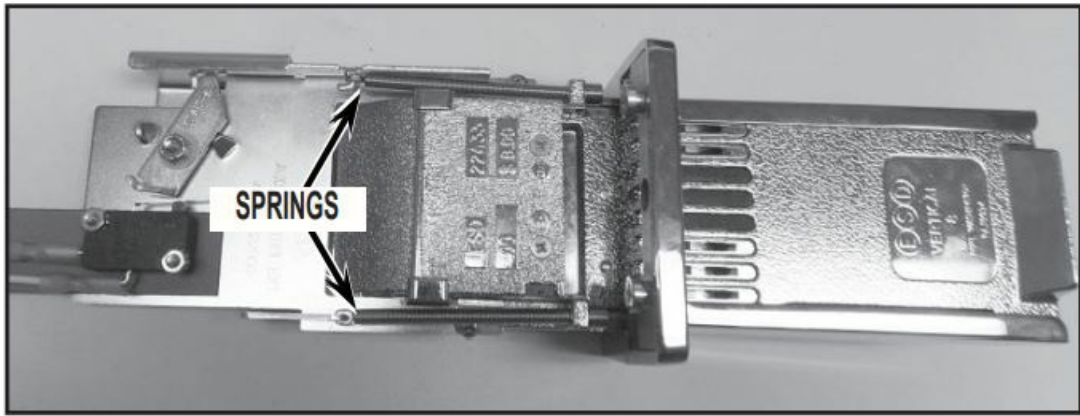

FIGURE 15
15. Hook the springs back onto spring retainer bracket. See Figure 15.